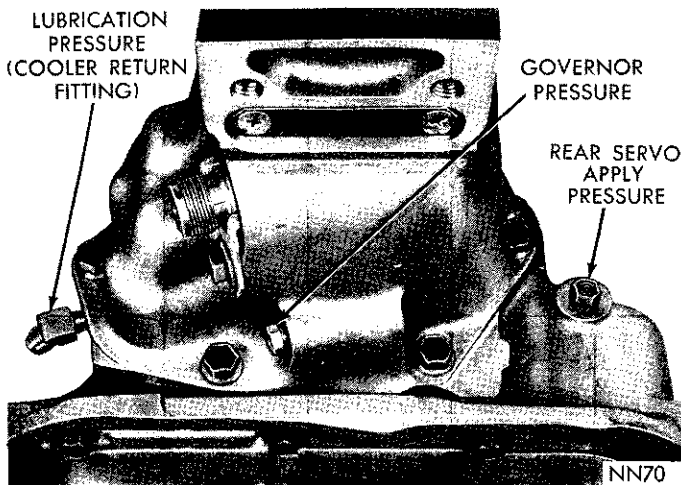

Fig. 13—Pressure Test Locations (Rear End of Case)
- (1) Install a "tee" fitting between cooler return line fitting and fitting hole in transmission case at rear left side of the transmission case (Fig. 13). Connect a
(1) Connect a 0-300 psi pressure gauge, Tool C-3293 to apply pressure take-off point at rear servo (Fig. 13).
(2) With transmission control in R (reverse) position and engine speed set at 1600 rpm, the reverse servo apply pressure should be 230 to 300 psi.
(1) Connect a 0-100 psi pressure gauge, Tool C-3292 to governor pressure take-off point, located at lower left side of extension near the mounting flange (Fig. 13).
(2) Governor pressures should fall within the limits given in the "Governor Pressure Chart."